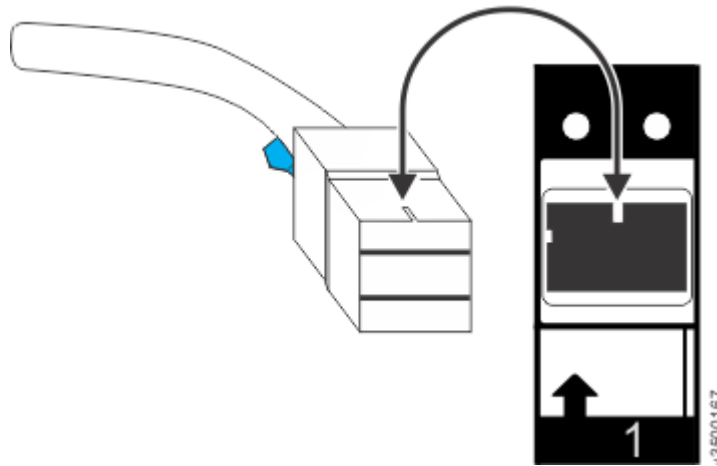

Figure 108. Proper orientation for SAS cable connector
- Figure 108 on page 166 shows the correct orientation. The blue tab is always below the port for expansion enclosure attachment SAS cables.